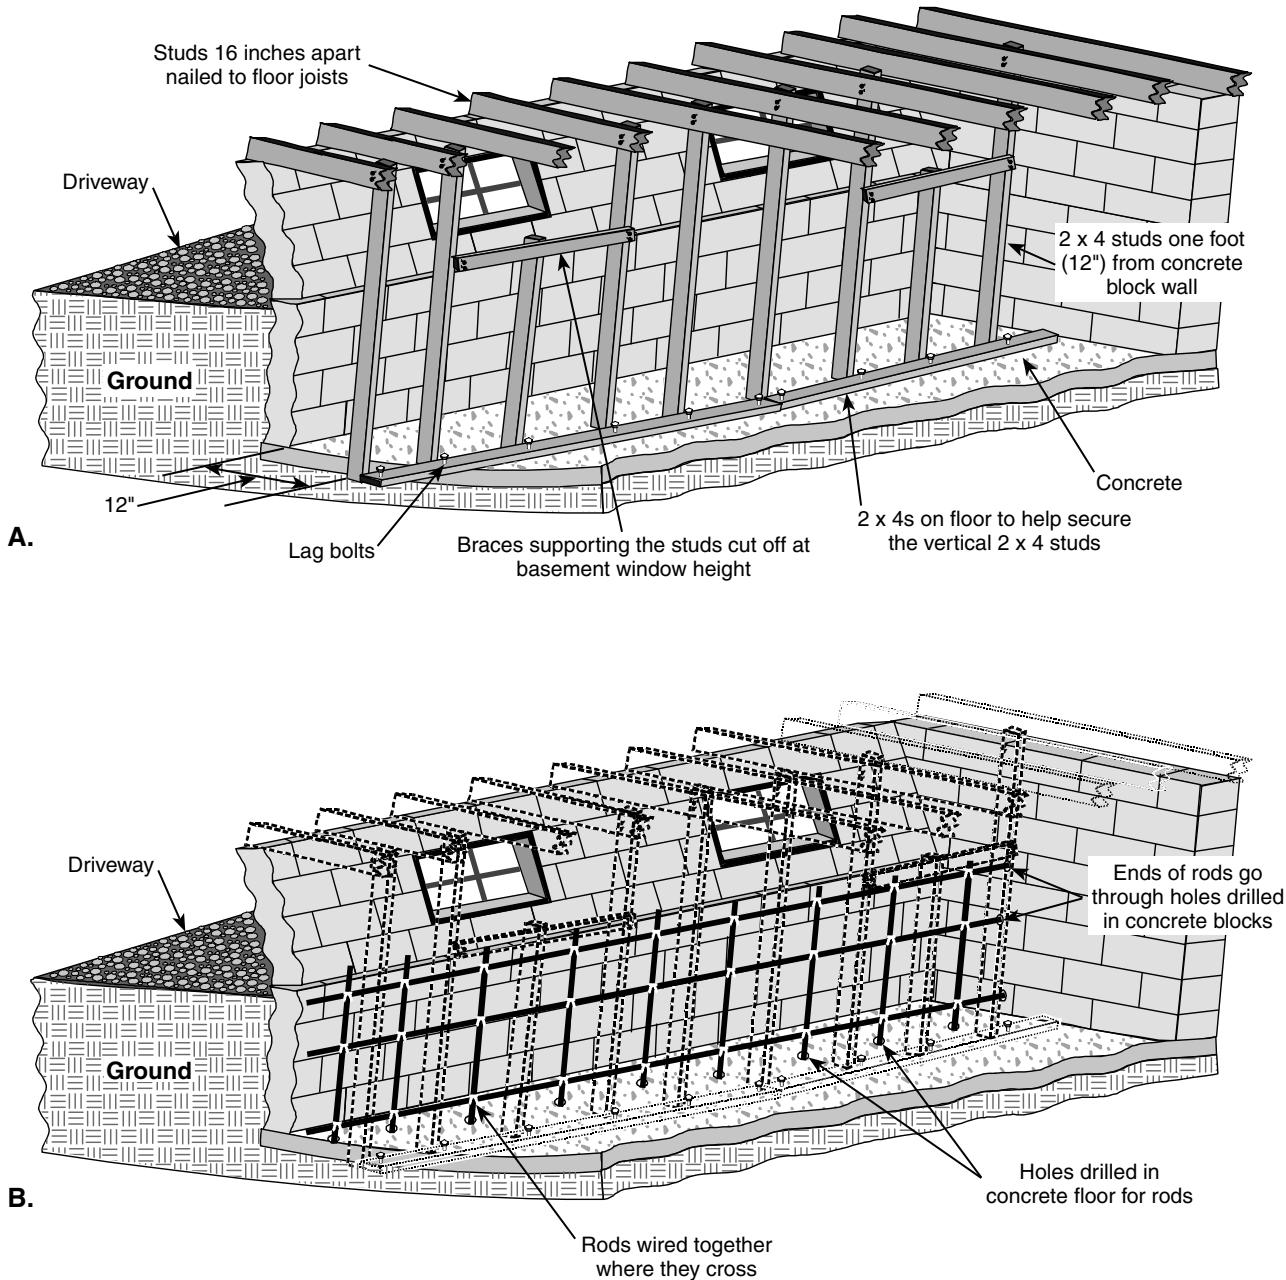

Figure 4-10
3. I built my concrete forms from 2 x 4s, 1 foot out from the old block wall, and spaced 16 inches apart so that they could be supported by the floor joists above, as I had with the temporary 4 x 4s. (See Figure 4-10 A.) But, in order to be able to pour the concrete through the window openings, I had to space the 2 x 4s 24 inches apart in front of the windows. (Remember this spacing; it comes into play later.) The new wall only needed to be as high as the basement
6. Next, I built a support web of $\frac{3}{8}$ -inch reinforcing rods to strengthen the new concrete wall (see Figure 4-10 B). I drilled holes in the concrete blocks at each end of the basement side walls, 6 inches out from the old wall, to support the horizontal rods. Then I drilled holes in the concrete floor, also 6 inches out from the wall, to support the vertical rods. I cut the reinforcing bars and installed them, overlapping the horizontal rods by about 1 foot and securing them together with wire. I also wired the horizontal and vertical pieces together where they crossed each other. The bars stretched from wall to wall, stopping just below window level. When the reinforcing was completed, I attached plywood to my forms, leaving cut-outs in the plywood for the buttresses (Step 7).